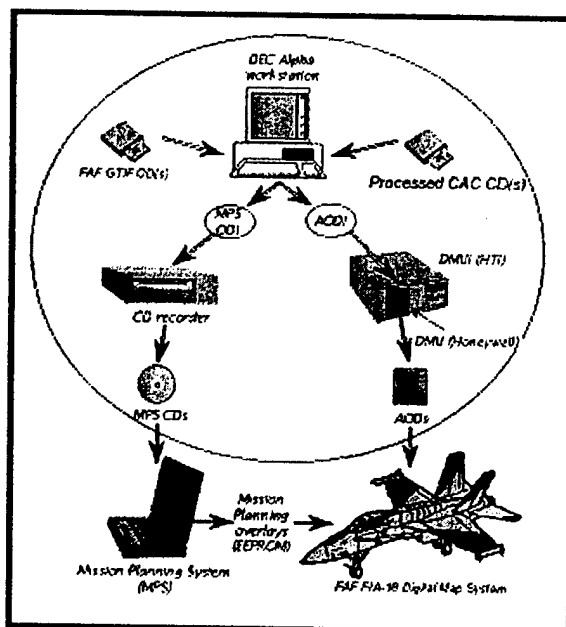
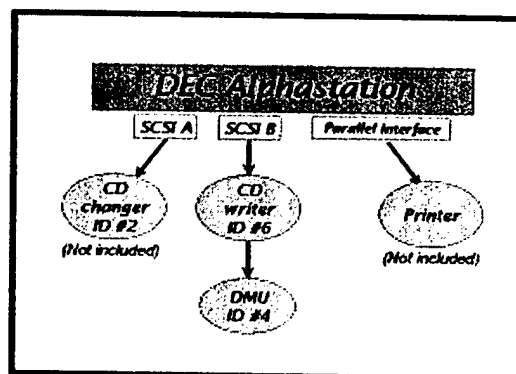

Figure 1. Overview of FiAF MMC System Hardware Platform
Figure 2. FiAF MMC System Hardware Connections
- Process and archive Finnish-produced geotiff Images into Compressed Aeronautical Chart (CAC) map data, compliant to the Tessellated Spheroid (TS) Projection System.
Figure 1 provides an overview of the hardware platform hosting MMC 3.4P. Figure 2 provides a diagram of hardware connections from this platform to major hardware peripherals. Note that as of Design Review (DR) Meeting #1, FAF did not own all the hardware peripherals that MMC supports. Specifically, FiAF does not own a Howtek scanner or Seiko color printer, both of which are supported by MMC. In addition, FiAF does not have a GPIB board, which is required for installation of the scanner. References to all other unavailable hardware (i.e., scanner, color printer, and GPIB board) are highlighted in yellow in this document. Several sections within this ATP involve data processing. Table 1 provides a complete listing of required data sources.